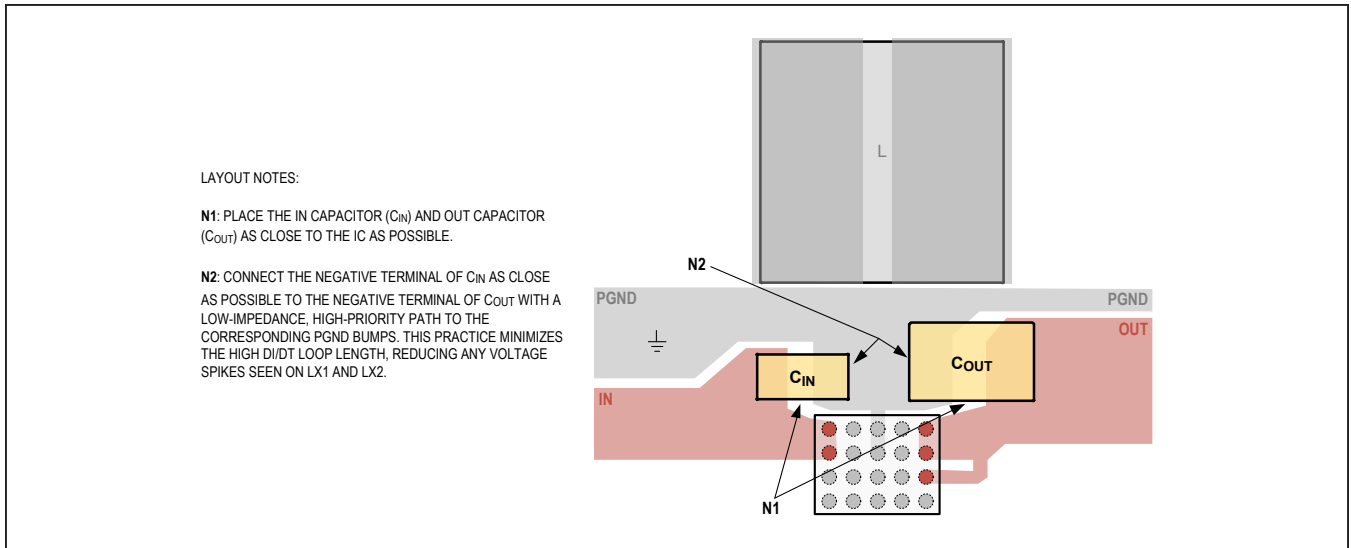

Figure 7. Recommended Capacitor Placement
- 1) Place the input capacitors ( $C_{IN}$ ) and output capacitors ( $C_{OUT}$ ) immediately next to the IN pin and OUT pin, respectively, of the IC. Since the IC operates at a high switching frequency, this placement is critical for minimizing parasitic inductance within the input and output current loops, which can cause high-voltage spikes and may damage the internal switching MOSFETs. See Figure 7 for an illustration.